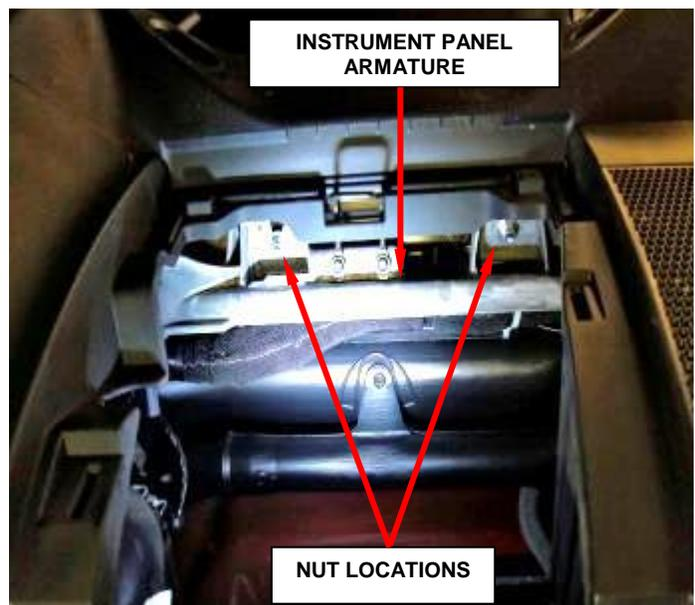

Figure 101 – PAB Lower Nuts
27. Reach up into the instrument panel glove box opening to access and remove and save the two nuts that secure the PAB lower studs to the instrument panel armature on each side of the glove box latch striker (Figure 101).